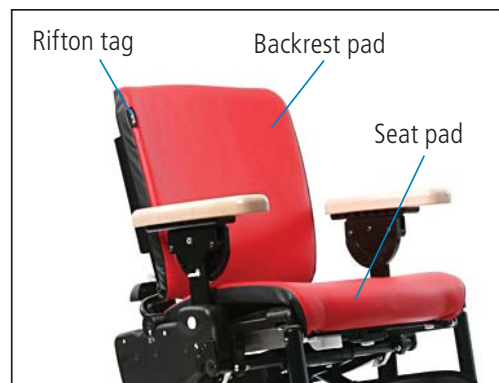
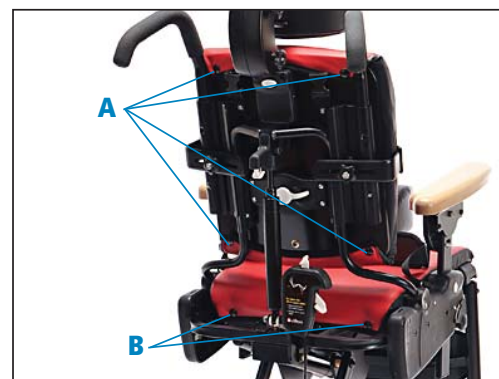

Figure 6b
Figure 6c
Backrest pad has a cloth tag marked Rifton (see Figure 6b), and is snapped onto studs (A) located behind top and bottom edge of backrest (see Figure 6c).